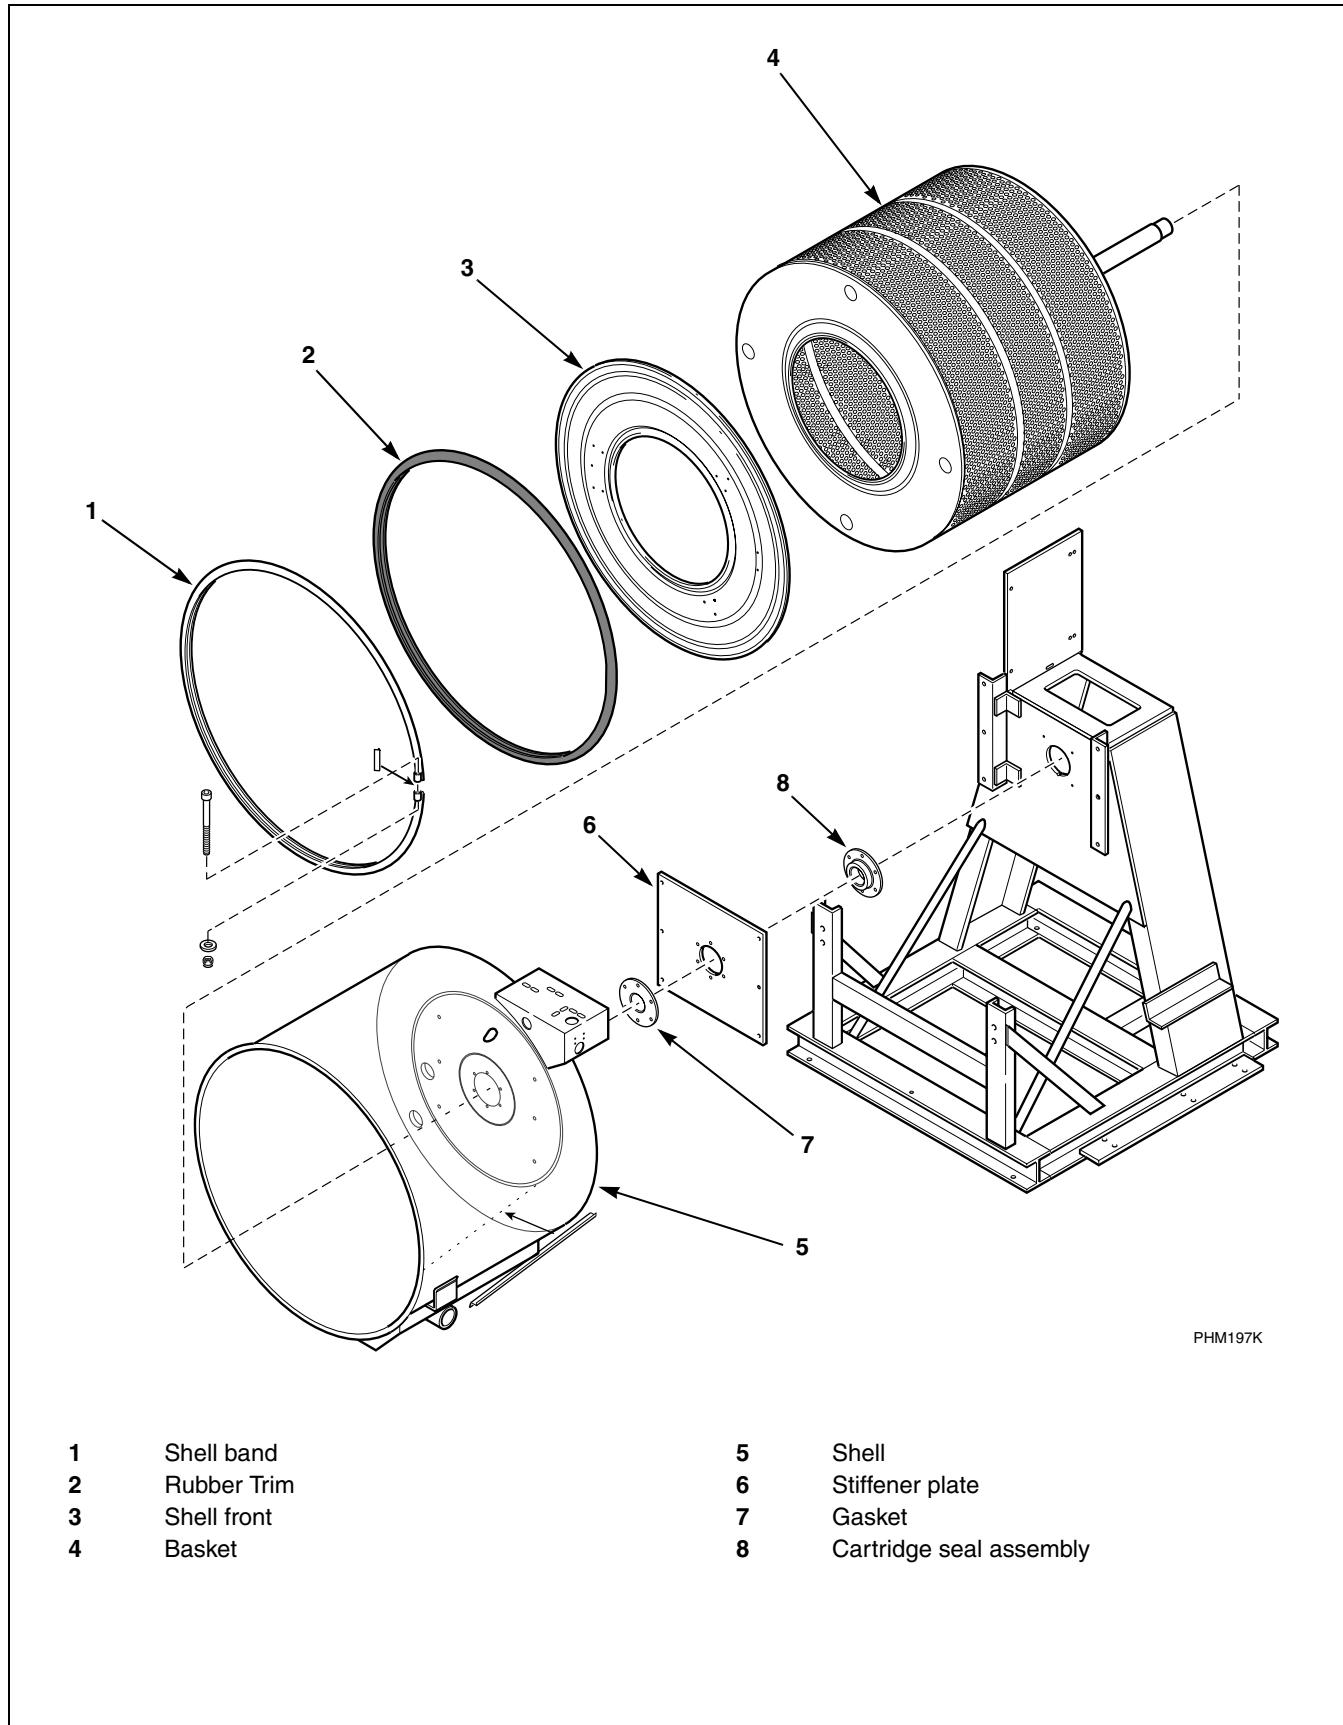

Figure 30
- g. On all models except for UW35, install a gasket between the stiffener plate and the shell back and align the bolts. Refer to *Figure 30*.
- h. Install a new cartridge seal onto the machine (without using RTV) with the gasket against shell back, leaving the bolts loose, refer to *Figure 30*.